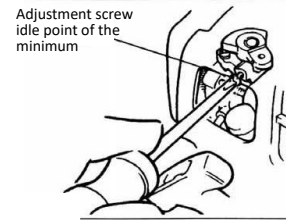

Figure 16
2. If the cutter device rotates with the engine at idle speed, reduce the idle speed by turning the idle adjustment screw counter-clockwise, if necessary. See figure 16.